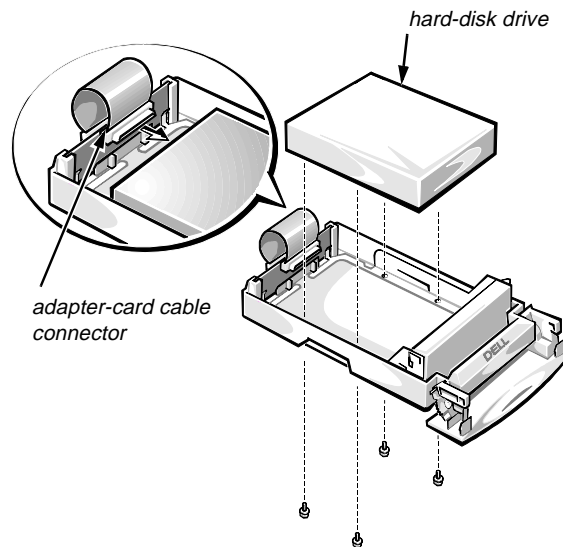

Figure 3-3. Attaching the Drive to the Adapter-Card Cable Connector
3. **Attach the drive to the adapter-card cable connector (see Figure 3-3).**